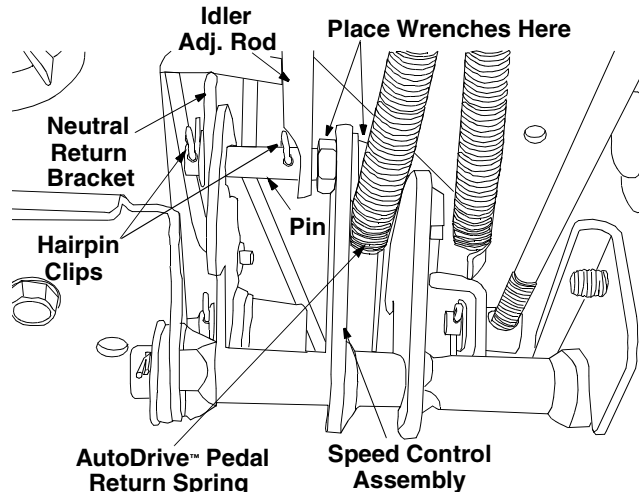

Figure 20
- Locate the speed control assembly on the underside of the steering support bracket. See Figure 20.
- Remove both hairpin clips from the pin which is fastened to the speed control assembly (be careful not to lose the small flat washers found on the pin). See Figure 20.
Using two 9/16" wrenches, remove the pin from the speed control assembly. See Figure 20.